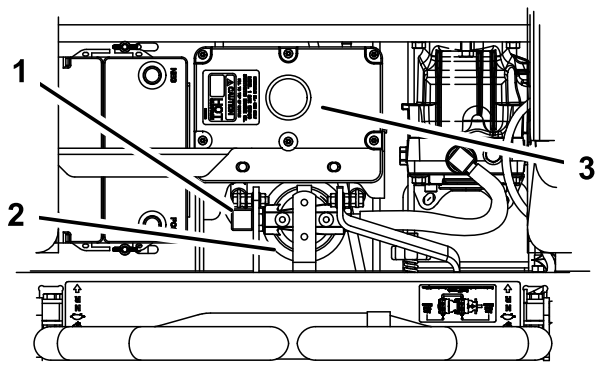

Figure 93
4. Remove the right hydraulic line that comes into the adapter (Figure 93).
6. Install the right hydraulic line to the adapter (Figure 93).